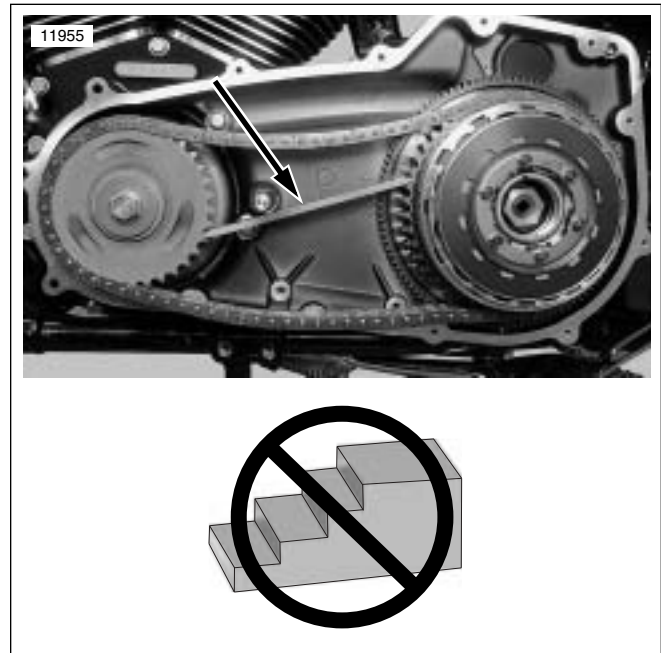

Figure 6. Primary Drive Locking Tool
**See Figure 6. Do not use HD-41214 Primary Drive Locking Tool to remove or install components. Damage to components can occur if this tool is used. Use only HD-47977 Primary drive locking tool to remove and install components.**